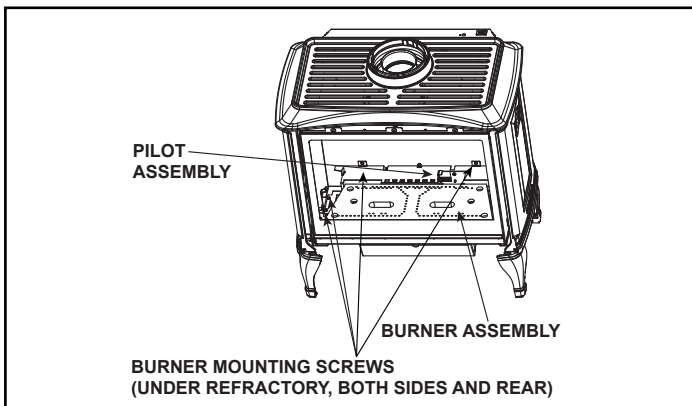

Figure 12. Remove Burner
12. The pilot needs to be lifted slightly to accommodate the burner removal. Using 1/4 in. bit, remove the two screws that attach the pilot to the burner. Remove the pilot shield and lift the pilot slightly until it clears the pilot mounting tabs. See Figure 12.
13. Using a 1/4 in. bit, remove the two burner mounting screws from each side of the burner. Remove the two screws that hold the burner to the rear firebox wall. See Figure 12. Remove burner from appliance.